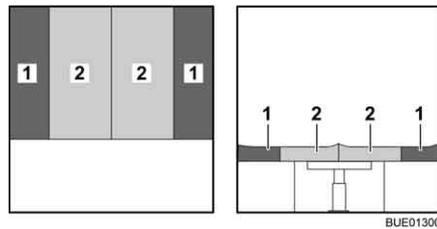

Fig. 117 After conversion
- Insert the back cushions (Fig. 117,1) between the seat cushions and the wall. Observe the wedged form.